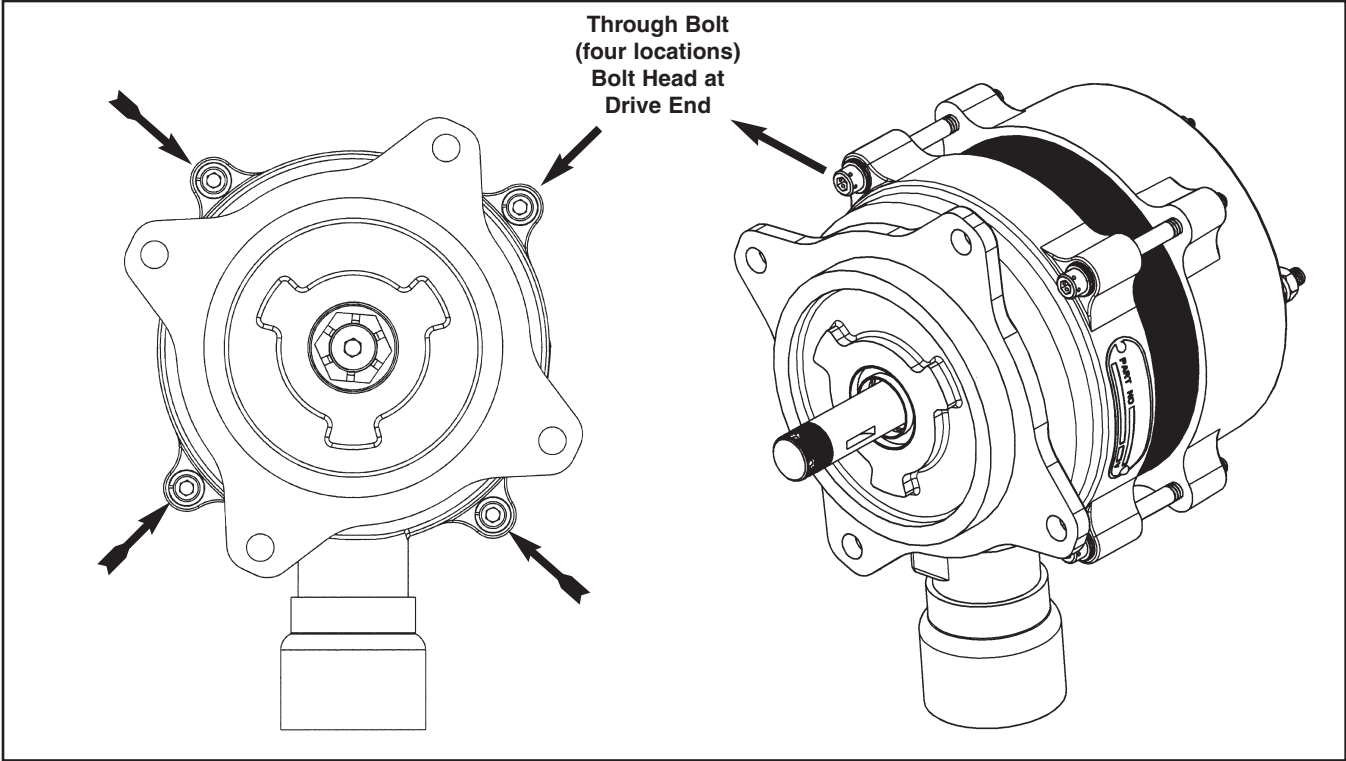

Figure 1 - Typical ALV-9610 Alternator
- b. If the alternator IS NOT affected, proceed to section 3.D(1) Maintenance Record at the completion of the regularly scheduled inspection.
- (1) Remove the safety wire or safety cable from the head of the through bolts of the affected alternator. Refer to Figure 1.